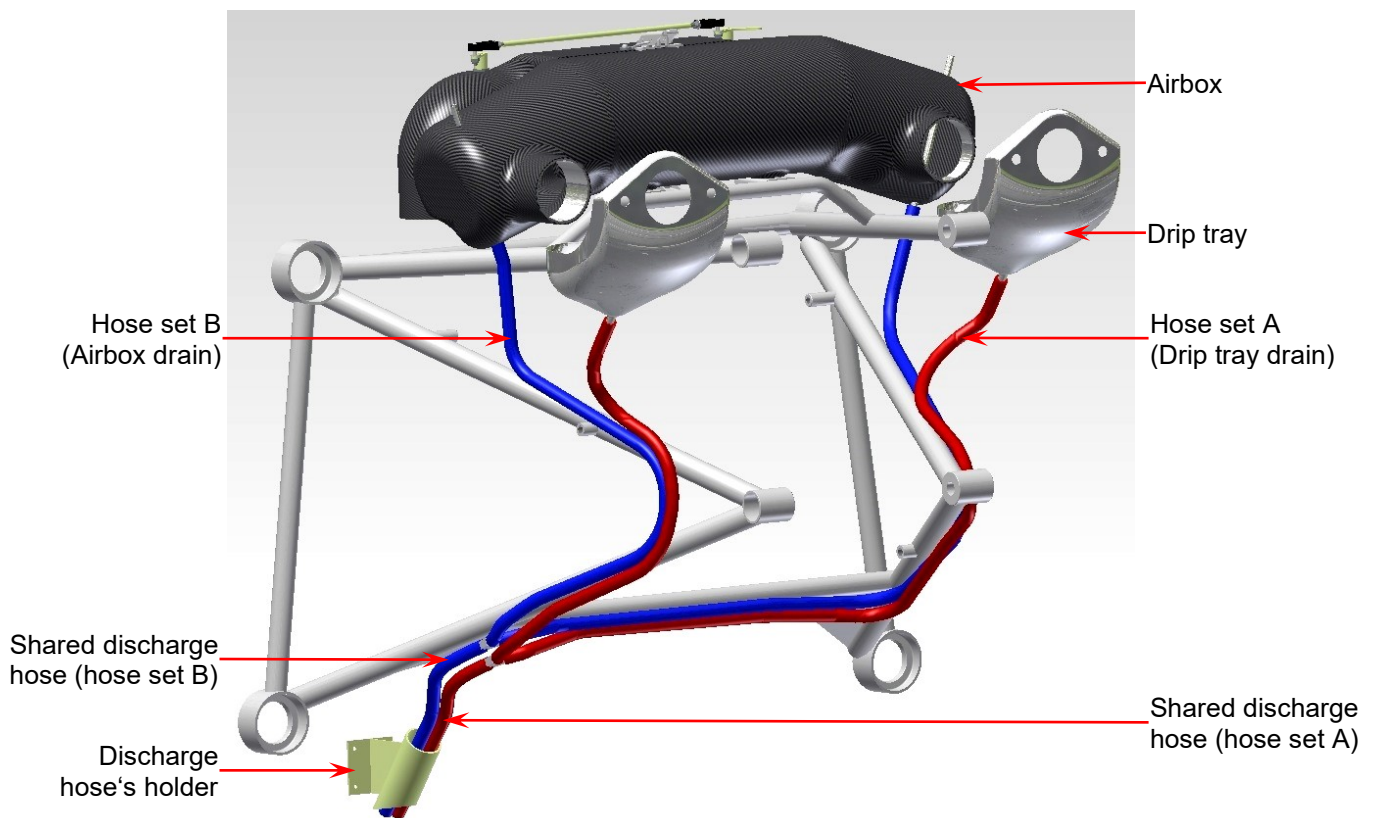

Fig. 7 Connecting of drain hoses – Rotax 912, fixed landing gear (front view)
*Rotax 912, fixed landing gear (fig. 7),